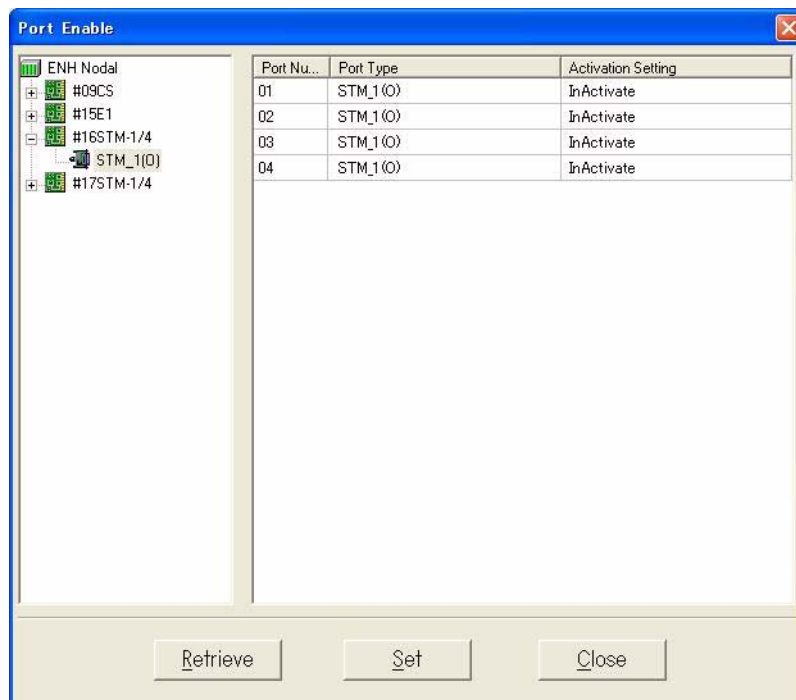

Fig. 4-4-29 Setup Port Enable
- 2 From the main menu on the ADM Management Tool, select **Port Enable** item from the Configuration menu. The **Port Enable** dialog box shown in *Fig. 4-4-29* appears: